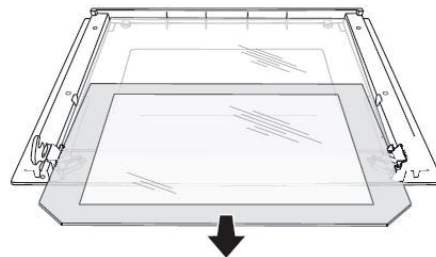

Figure 2
2. Lift the inner glass panel (double glass) at the bottom and carefully push it in the direction of the arrow as shown in Figure 2 and remove it completely from the oven door.